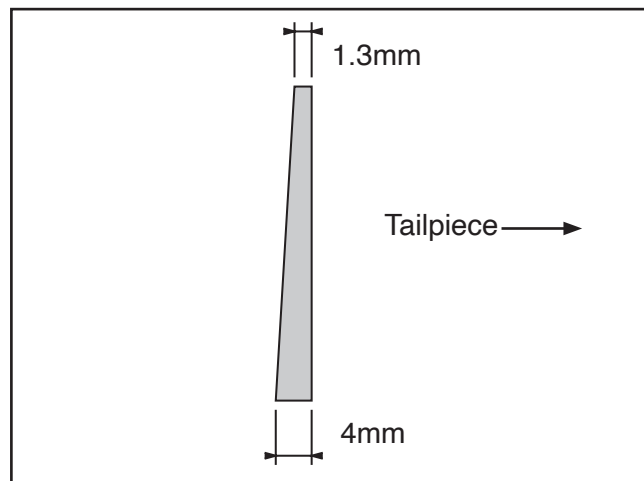

Figure 22. Correct bridge thickness (cross-section side view).
4. Reduce thickness of bridge until top is 1.3mm thick, and base is 4mm thick (see **Figure 22**).